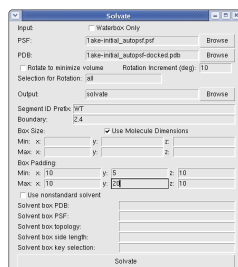

Figure 8: The VMD Solvate window.
- 3 Embed this structure into a water box using the `solvate` plugin. In the VMD Main Window, choose `Extensions` → `Modeling` → `Add Solvation Box` (Fig. 8). Set the box padding to 20 Å for maximum y, 5 Å for minimum y, and 10 Å for the remainder dimensions, as shown in the figure and click on `Solvate`. We would like the target map to fall completely within the water box, which is why we chose a larger padding in one of the dimensions. VMD will generate the files `solvate.psf` and `solvate.pdb`, which will be automatically loaded upon completion of this step. Load the target map (from the previous section) to visually ensure that the density falls completely within the water box (Fig. 9).